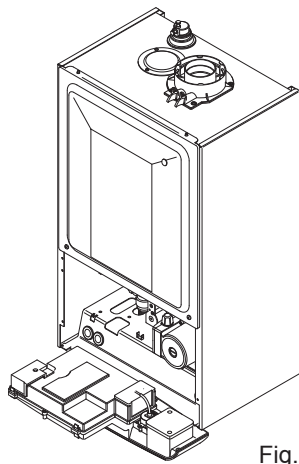
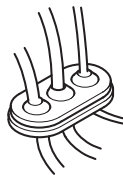

Fig. 6
Fig. 5
1. Ensure that the electrical supply to the boiler is isolated. Allow the facia to drop down (Fig. 6). Route the IFOS cable through the 3 way grommet (Fig. 5) in the combustion box lower panel.